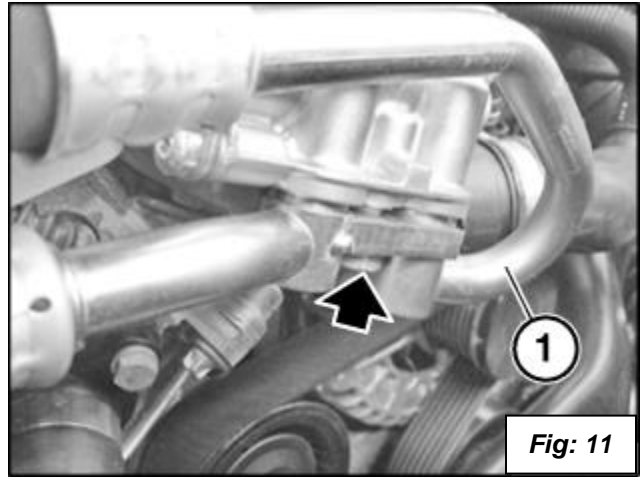

Fig: 11
16. Remove the oil lines (1) from the oil filter control housing by removing the bolt marked with an arrow. Put rags under oil lines to catch oil (keep the oil off of the belts!). See **figure 11**. **Tip:** Use a flex head ratchet and you don't have to remove the fan cowl.